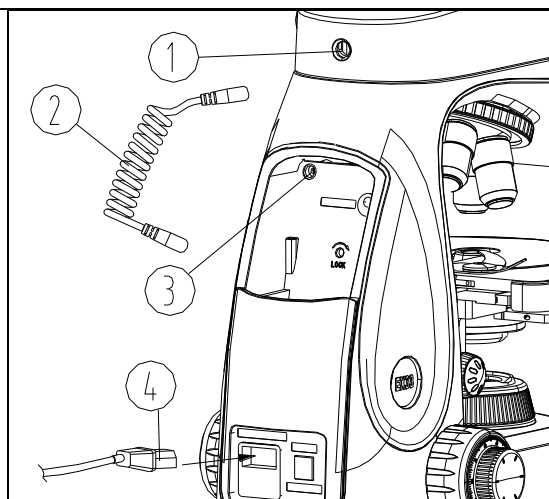

Fig. 32
5. Insert one end of the power cable ② into the power socket ① of the LED fluorescence illuminator back, and then insert the other end into the power socket ③ of the microscope back or insert the power adapter plug into a suitable electrical receptacle. Ensure both connections are secure. (See Fig. 32)
6. Insert one end of the external power cord ④ into the power socket ⑤ of the microscope back, and then insert the other end into the power supply receptacle. Ensure both connections are secure.